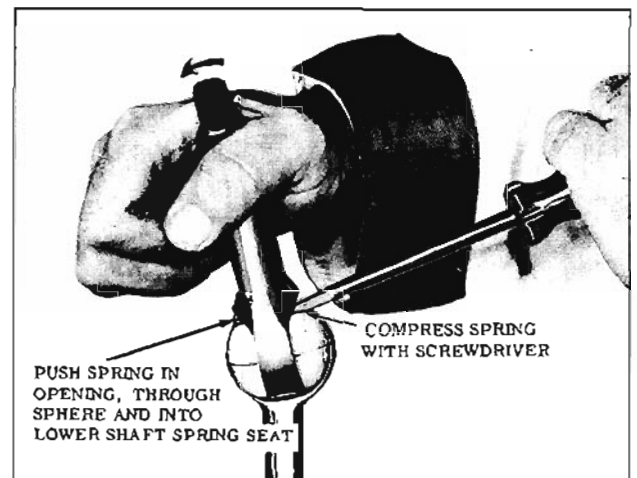

Fig. 8-110 Installing Spherical Joint Spring
3. Install the pre-load spring through the centering sphere and into the spring seat in the lower shaft. Compress the spring into the opening between the sphere and the upper shaft, then move upper shaft to hold spring. With a screwdriver, inserted through the coils from the opposite side of the shaft, compress the spring so the upper end will snap into the spring seat in the upper shaft. (Fig. 8-110)